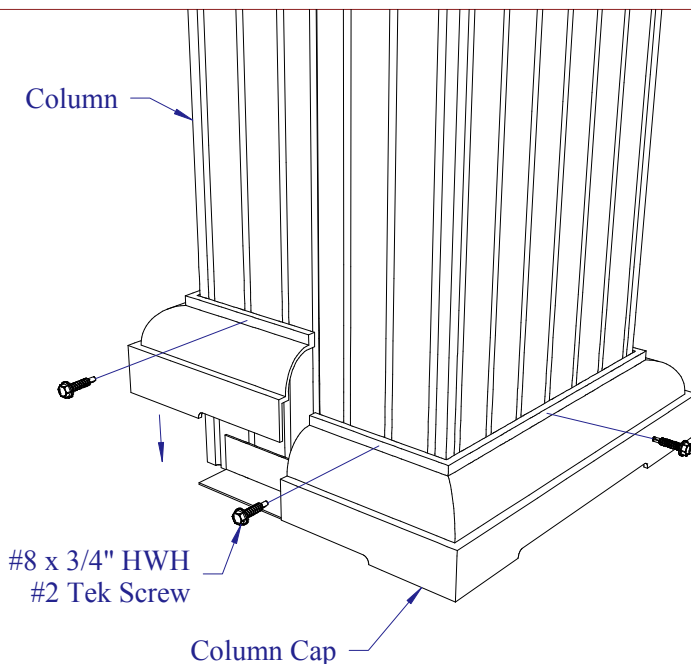

Fig. 4-5
- Attach the column cap to the column using (6) #8 x 3/4" HWH #2 Tek screws as shown (see Fig. 4-5).